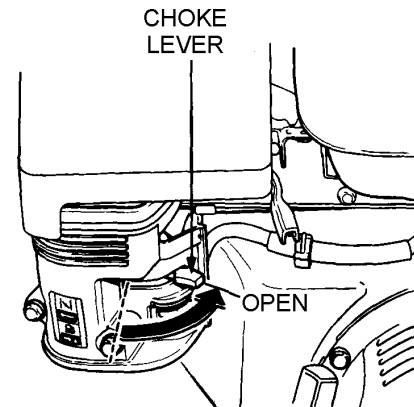

Figure 8. Engine Choke Lever (Open)
3. Place the **choke lever** (Figure 8) in the "OPEN" position if starting a **cold engine**.